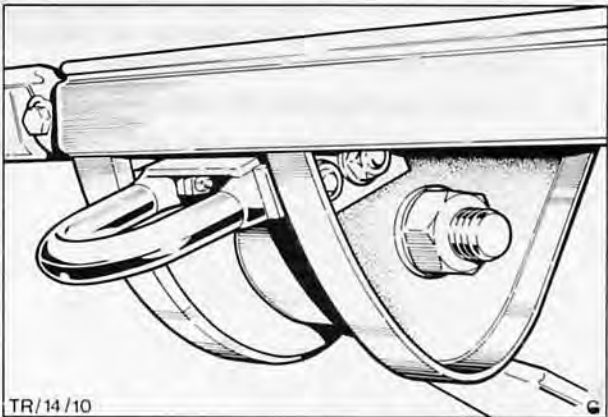

Fig. 39. Front spring eye bolt
5. Remove nut and bolt securing front spring eye to body and remove spring, Fig. 39.